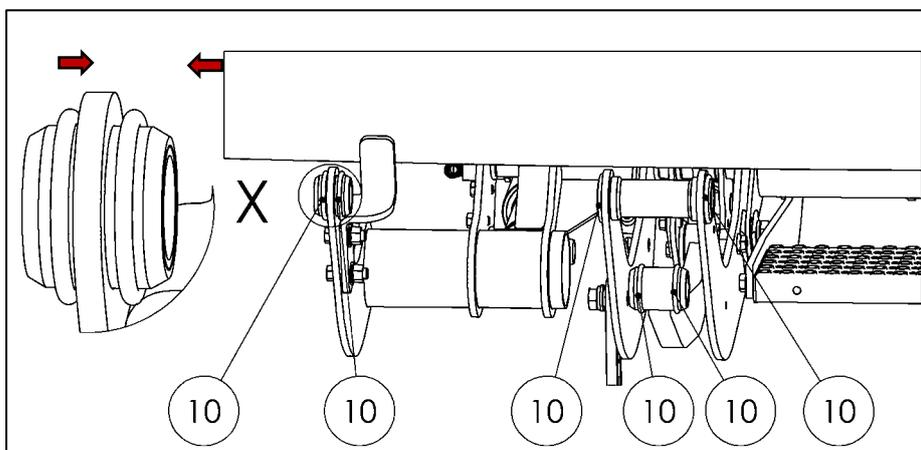

Figure 51
- Thread 6 O-rings (accessories kit parts list – Item No. 10) onto the steel bushings (see Fig. 51).